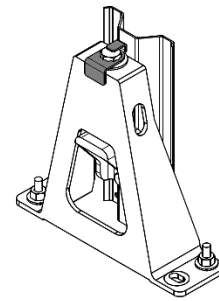

Figure 6
4. Place retention clip on top of bolt. (Shaded in Figure 6)